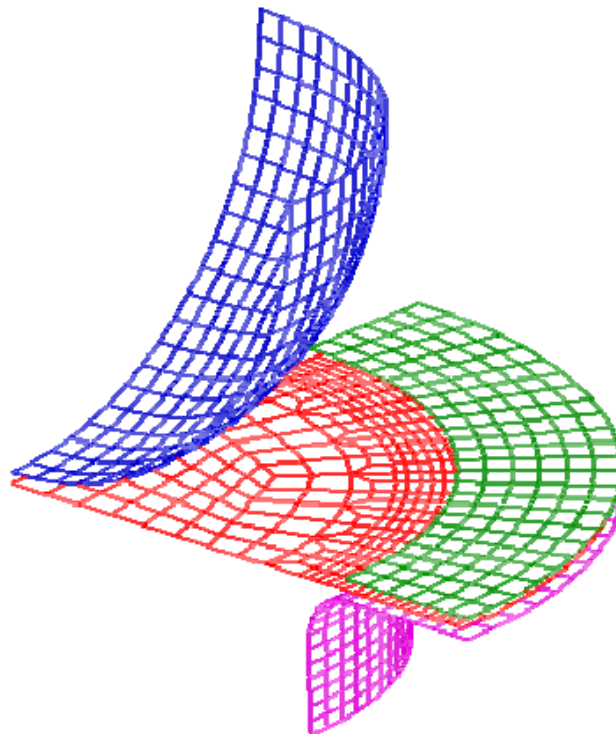

Figure 2.2 Imported model
2. Use your mouse cursor to select the data file, following by clicking the **Import** button. Now, the model illustrated in Figure 2.2 is displayed on the display area.